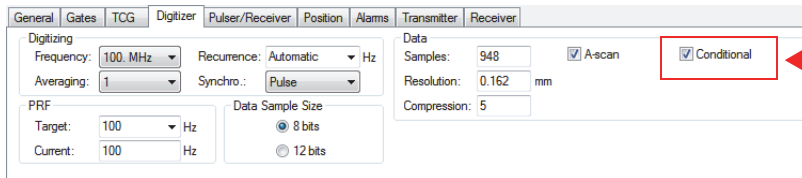

Figure 4-53 Digitizer tab
1. Click the **Digitizer** tab of the **UT Settings** panel, and then select the **Conditional** check box. See Figure 4-53 on page 147.